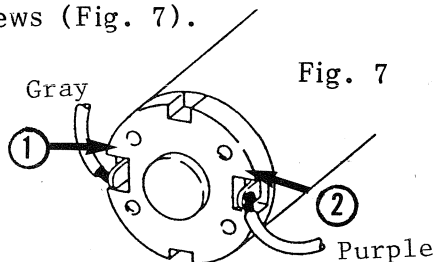

Fig. 7
- 2.4 To remove the motor, unsolder the motor leads and remove the motor screws (Fig. 7).